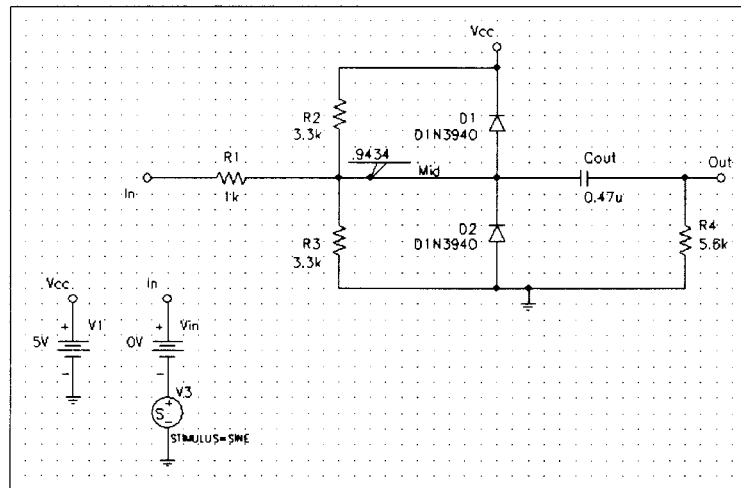

Figure 2-11 Diode Clipper Circuit with a Voltage Stimulus
This example shows how to run a transient analysis on the clipper circuit. This requires adding a time-domain voltage stimulus as shown in Figure 2-11.
- 5 Place a VSTIM symbol as shown in Figure 2-11.